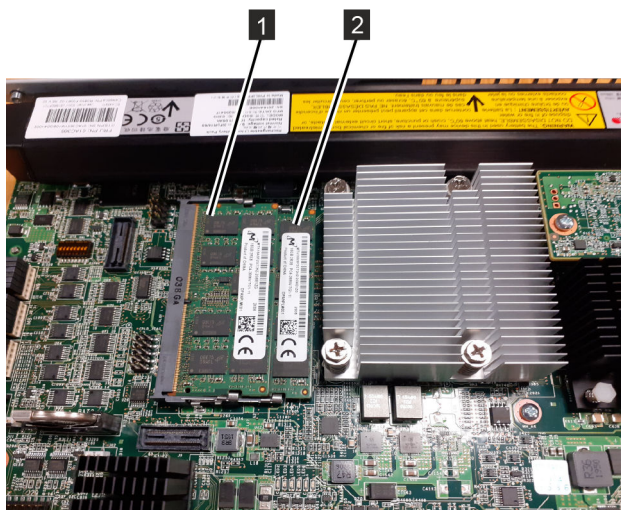

Figure 81. Installing a DIMM
6. Gently place the DIMM in the slot, ensuring the notches in the DIMM align with the shape of the slot (Figure 81 on page 124).